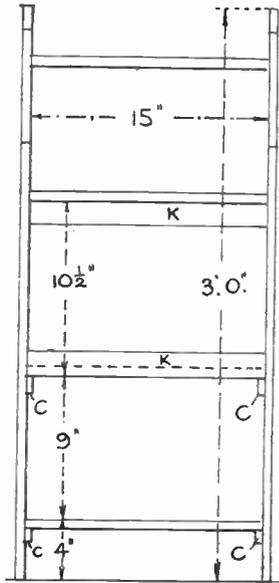

Fig. 2—Front elevation
Wood $\frac{3}{4}$ in. thick is suitable for all the main parts of the cupboard, with $\frac{1}{2}$ in. stuff for the shelf supports and edging pieces. The backing to the cupboard consists of one single J3 standard panel obtainable from Hobbies Ltd. In Fig. 2 we have a front view of the cupboard with all necessary dimensions given for setting out the work.
The back panel is held in place by small round head screws. The door (J) being 15ins. wide, would be best made from three narrow battens each 5ins. wide and 11 1/2ins. long, and glued edge-ways together and strengthened by the two cross rails (K) as seen in Figs. 2 and 3. The overall size of the door is 15ins. by 11 1/2ins. and the top edge must be